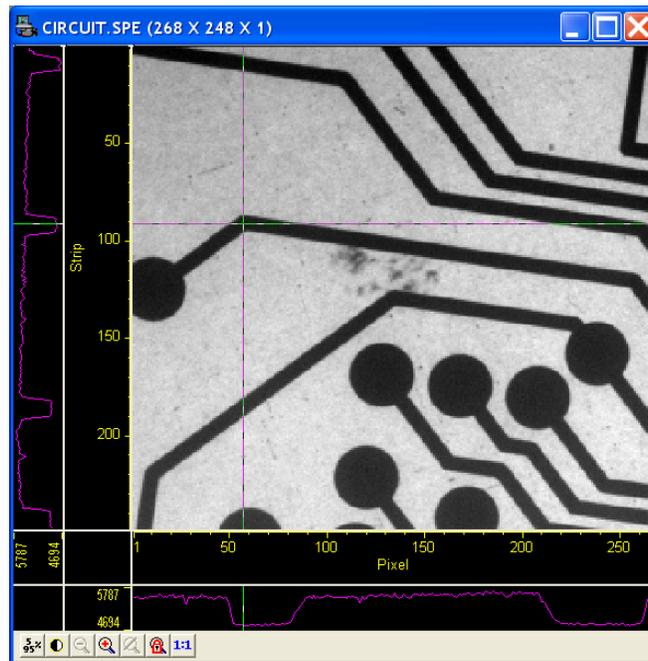

Figure 69. CIRCUIT.SPE with Axes and Cross-Sections
- The display should now appear as shown in Figure 69. The axes will be labeled in image pixels and strips with respect to the array used to acquire the image. The vertical image intensity profile at the cursor position will be displayed to the left and the horizontal image intensity profile at the bottom. The minimum and maximum values for each profile are indicated. Note that you can use the mouse and drag the axes and profile boundaries to change the size of the profile display regions. To change the cursor location, simply click the mouse at the new spot. The cross-sectional graphs will change to reflect the profiles at the new location.